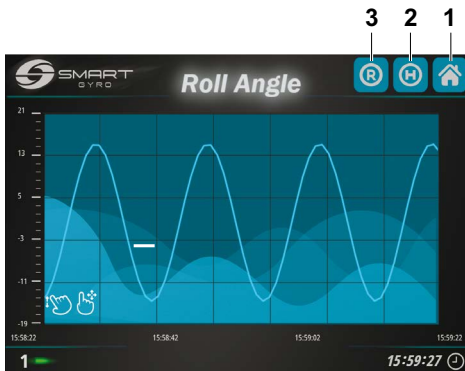

Figure 26
the Roll Angle page is visualized on the display (Figure 26).
Pressing the "R" icon on the top right corner (Figure 26, (3)), the visualization of the graph is started; the graph scrolls to the left.
Pressing the "H" icon (Figure 26, (2)), the display visualizes the data stored in the non volatile memory of the Display, as a background process.
Pressing the Home icon on the top right corner (Figure 26, (1)) will return you to the Home page.